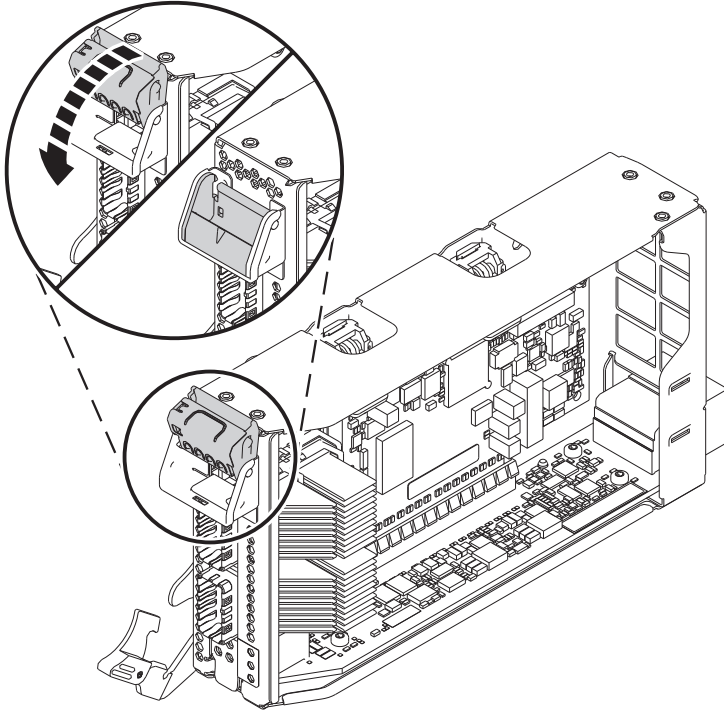

Figure 6. Placing a half-length low-profile adapter in the PCIe adapter cassette
- c. To lock the adapter in place, rotate the tailstock latch as shown in Figure 6 on page 7.